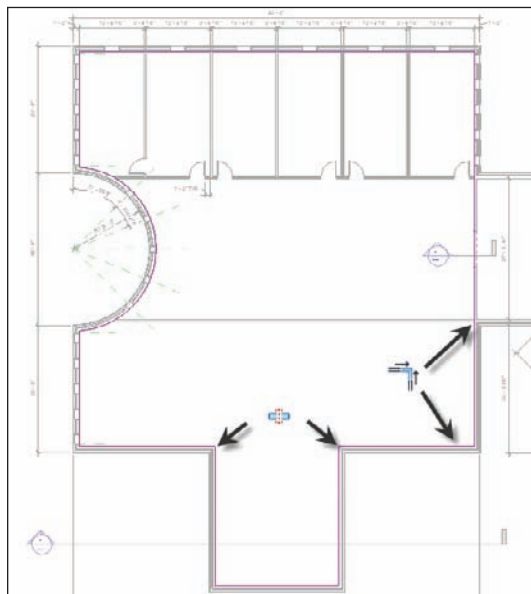

FIGURE 6.10 Selecting the walls
5. Keep picking the walls, as shown in Figure 6.10. You need to have a continuous loop—no gaps and no overlaps.